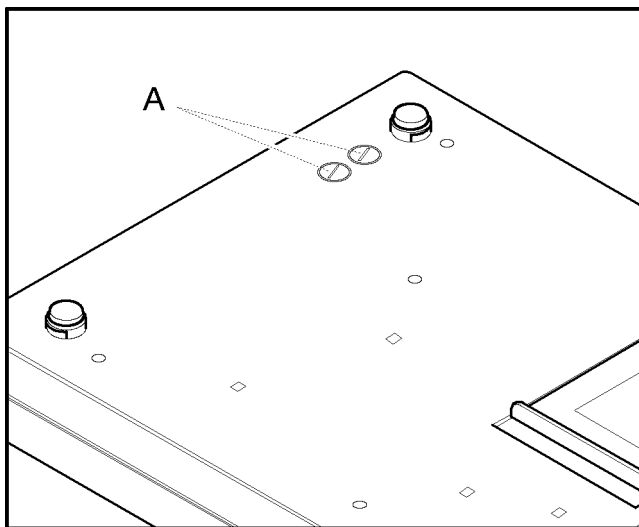

Figure 7-3: The AC Fuse Holders
3. Locate the two AC fuse holders on the bottom of the cardiograph, as shown in Figure 7-3.